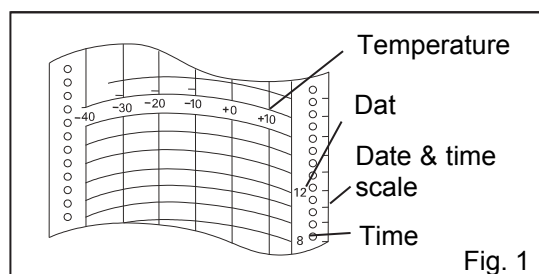

Fig. 1
- The information on the temperature recording paper is shown in Fig. 1.